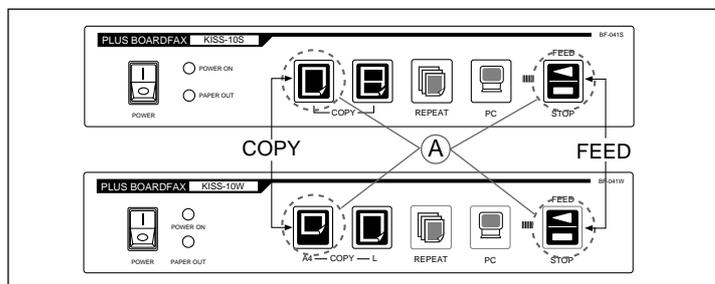

Fig. 4
- 4) Start the calibration. (See Figure 4.)
- Turn ON the power while pressing and holding the COPY and FEED buttons as shown in portion A of Figure 4.